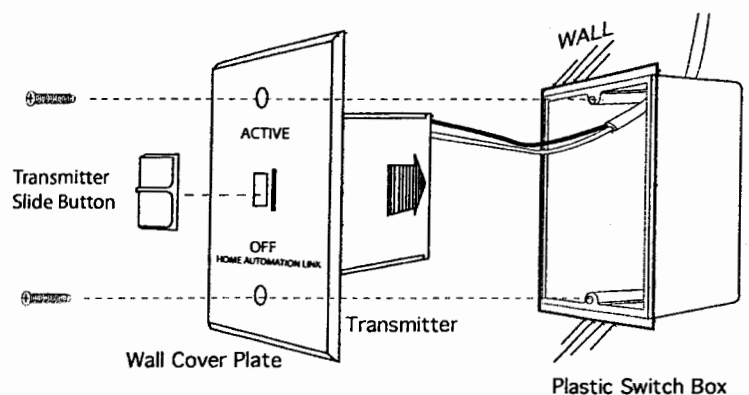

Fig. 6. Installing transmitter into junction box.
**Step 6:** Install the transmitter into the junction box, attach slide button and installation is complete. See fig. 6.